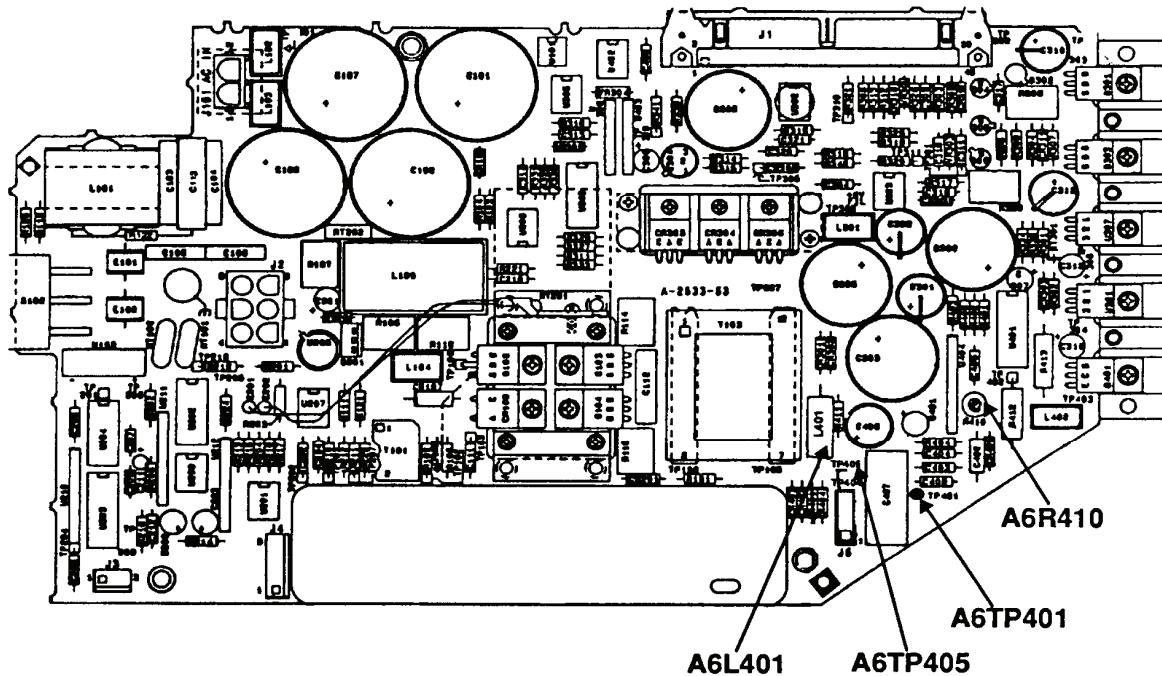

Figure 9. Power supply location sheet.
(2) Remove A6 power supply cover.
(3) Set multimeter to measure 1000V dc.
(4) Connect multimeter **INPUT HI** to A6TP405 (fig. 9) and **INPUT LO** to A6TP401 (fig. 9).
- (5) Record dc voltage marked on A6A1 HV module (located at TI top).
- (6) Note the value of inductor A6L401 (fig. 9). If A6L401 (fig. 9) is 10 mH, perform (7) and (8) below. If A6L401 (fig. 9) is 20 mH, perform (7) and (9) below.
- (7) Press TI LINE switch to **ON**.
Perform (8) below ONLY if A6L401 (fig. 9) is 10 mH.
- (8) If multimeter does not indicate a dc voltage equal to 2 V above the dc voltage recorded in (5) above, perform **b** (1) below.
Perform (9) below ONLY if A6L401 (fig. 9) is 20 mH.
- (9) If multimeter does not indicate a dc voltage equal to the dc voltage recorded in (5) above, perform **b** (2) below.
- (10) Press TI LINE switch to **OFF**.
- (1) Adjust A6R410 (fig. 9) for a dc voltage equal to 2 V above the dc voltage recorded in (5) above (R).
- (2) Adjust A6R410 (fig. 9) for a dc voltage equal to the dc voltage recorded in (5) above (R).